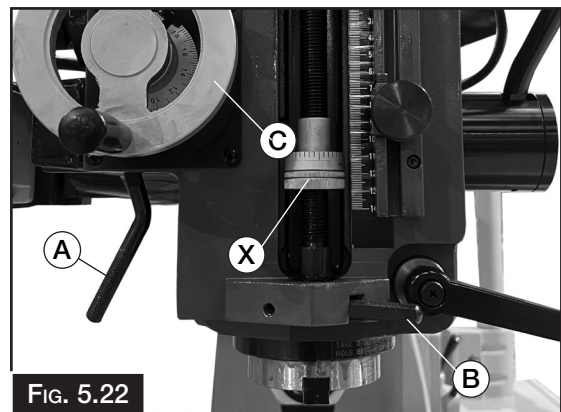

FIG. 5.22
4. Engage the feed by moving the feed lever to the left (A in Fig. 5.22). To disengage the feed, pull down on the release lever. (B in Fig. 5.22)
5. The feed will automatically trip out if the depth stop has been set.(X in Fig. 5.22)
3. The fine feed handle can now be manually moved to lower the spindle in a controlled manner. (C in Fig. 5.22)
4. When finished then release the fine feed by pressing the feed release lever. (B in Fig. 5.22)
1. Make sure that the quill fine down feed has been released by pressing the Feed Release Lever. (B in Fig. 5.22)